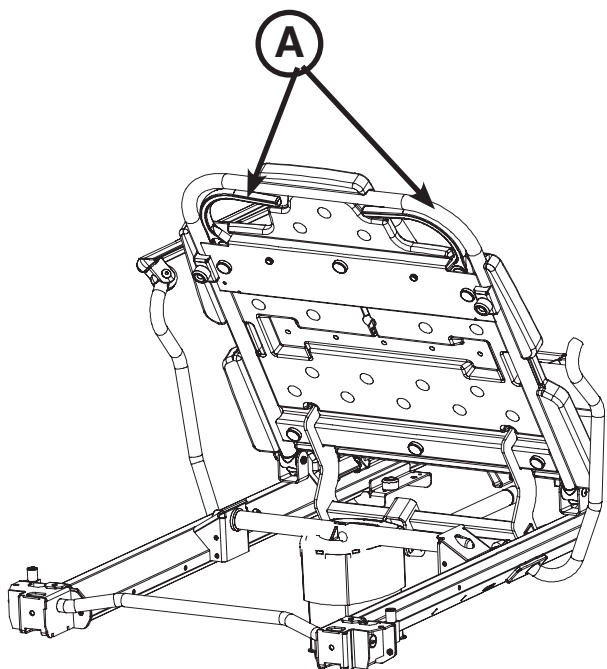

Figure 21: Pneumatic Fowler
To raise the fowler, squeeze either or both of the yellow fowler handles (A) for pneumatic assist until the fowler has reached the desired angle (between 0 and 90 degrees) as shown in Figures 21 and 22.
To lower the fowler, squeeze either or both of the yellow fowler handles (A) and push down until the fowler has reached the desired angle (between 90 and 0 degrees) as shown in Figures 21 and 22.